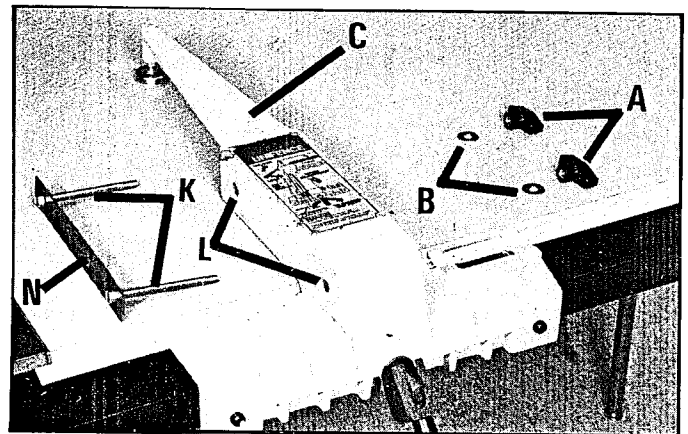

Fig. 38
4. Insert the two studs (K) Fig. 38, of fence clamping plate into the two holes (L) located on the side of the fence body (C). Assemble the two washers (B) and lock knobs (A) onto the two studs (K). Do not completely tighten lock knobs (A) as plate (N) must be loose when assembling fence.